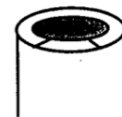

Figure 8. Cut two notches at top of casing to locate beeper tape.
- Cut 2 notches in the casing  $\sim \frac{1}{2}$ " apart with a hacksaw (Fig. 8). This area serves as the tape position when beeping the well.